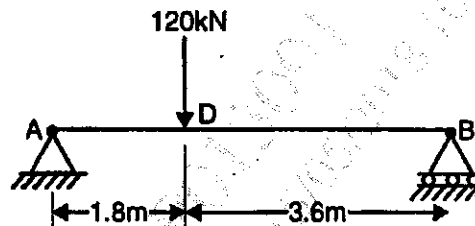

Fig. No 05
- b) The horizontal beam as shown in Fig. No 05 is hinged at point 'A' and supported on roller at point 'B'. It carries a vertical load of 120 kN at point 'D'. Determine deflection at point 'D' by taking  $E = 200 \text{ GPa}$  and  $I = 160 \times 10^6 \text{ mm}^4$